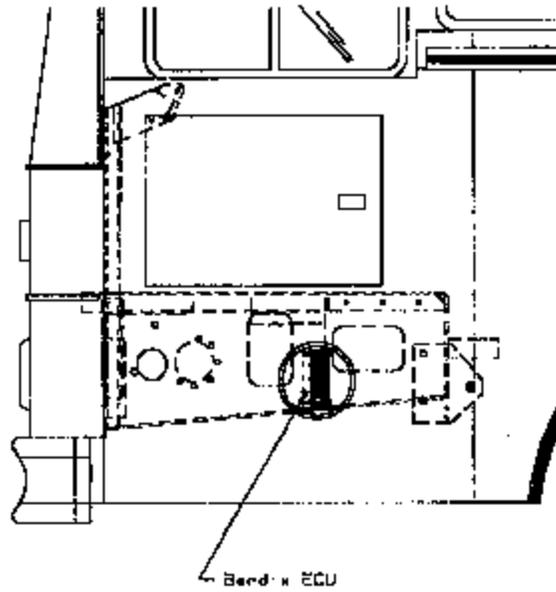

Figure 1
3. Locate the ABS Electronic Control Unit (ECU) on the vehicle. (Locations vary depending on model) See Figure 1, 2, & 3.
* On the MVP-EF, the ECU is located below the driver's platform. See Figure 1.